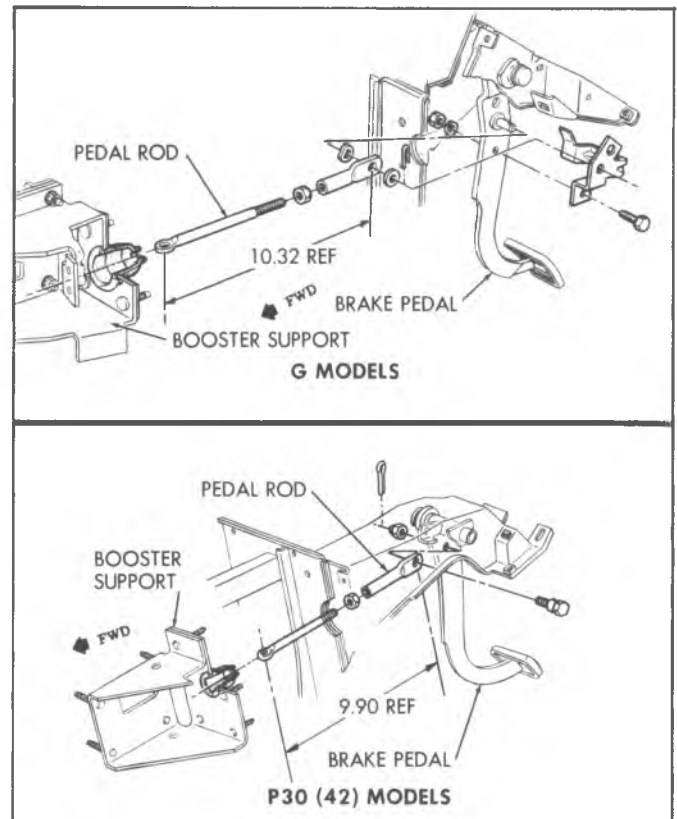

Fig. 95--Brake Pedal Adjustment--P30(42) and G Models
1. Adjust the pedal rod to the length shown in Figure 95 and install in the vehicle.